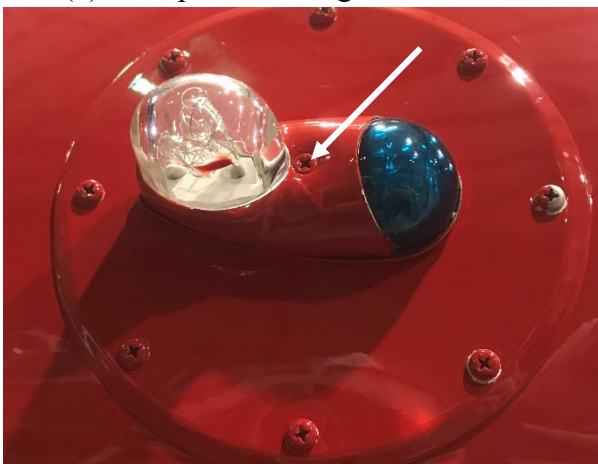

Figure 47-3
3. Remove wingtip NAV light A 650 PR 28 (L/H) and A 650 PG 28 (R/H) from plate by removing screw (1) on outside cover, sliding the light cover off, then removing screws (3) from plate. See Figure 47-3 and 47-4.